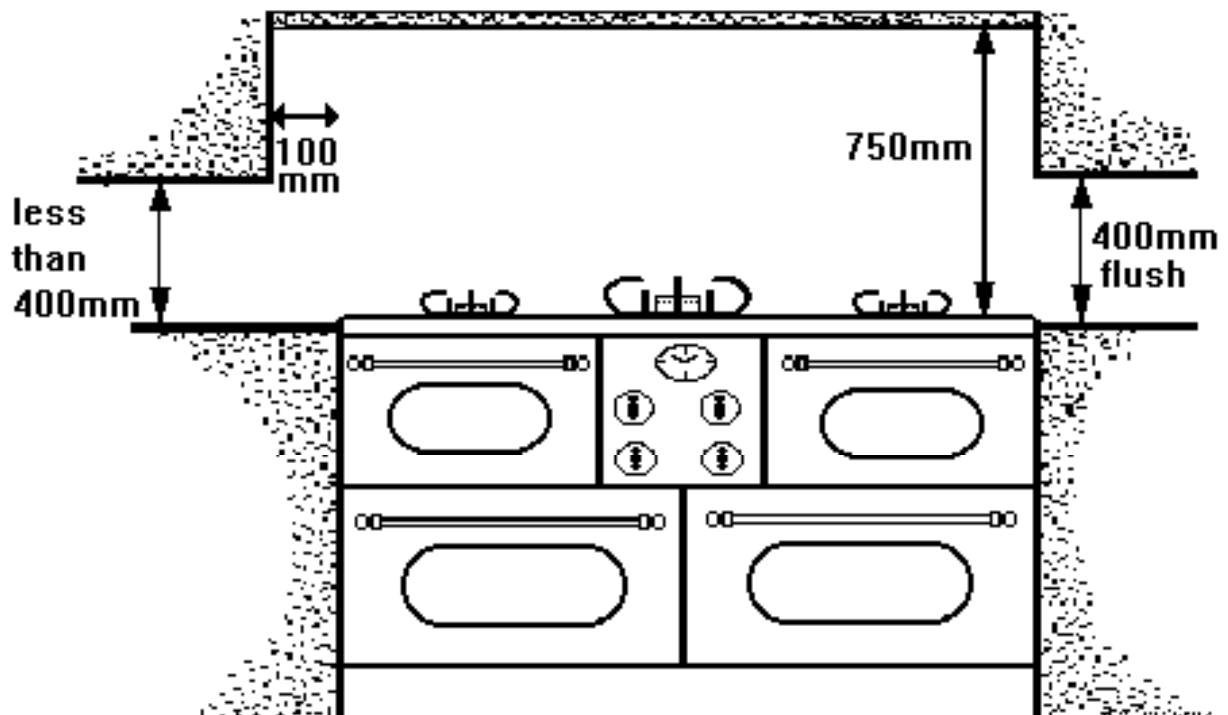

fig 1.
- If this cooker is to be fitted between cabinets the recommended dimensions as shown in Fig. 1 and the instructions on 'Location of appliance' must be followed.